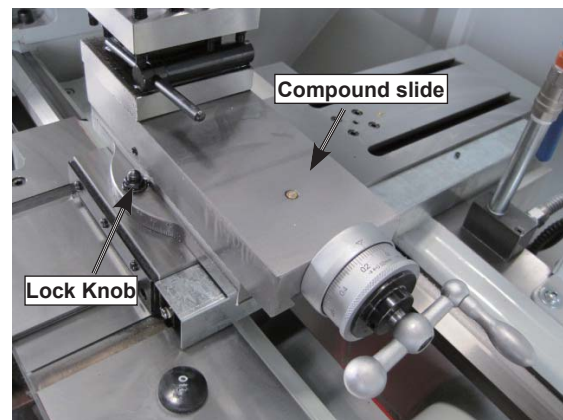

Figure 41. Compound slide set at an angle.
1. Loosen the two hex nuts at the base of the compound slide (1 of 2 shown in Figure 41).